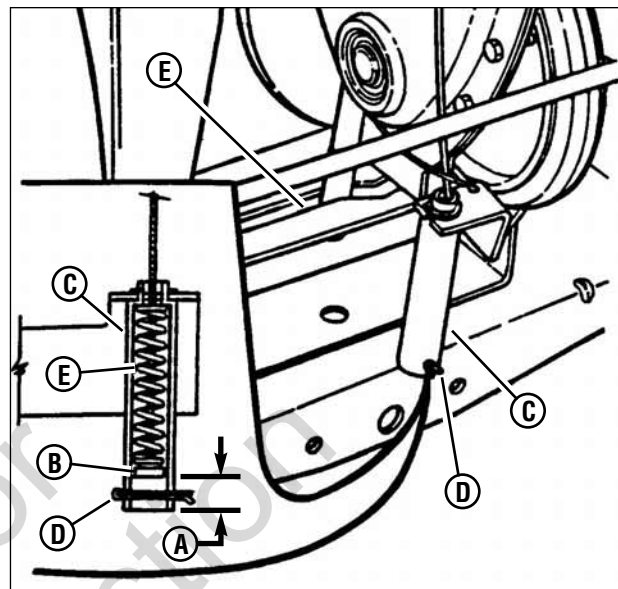

Figure 39: Adjusting the brake cable
4. Measure the distance (A, Figure 39) between the end of the clutch/brake cable (B) and the bottom of the housing (C). The measurement should be 3/4".
NOTE: The cotter pin, brake spring, and clutch yoke (D, E, and F, Figure 39) are noted for reference purposes only.
4. Move the transmission shift lever to the neutral (N) position.
5. Rotate the clutch yoke (F, Figure 39) out with your hand and work the belt between the drive disc and the rubber driven disc.